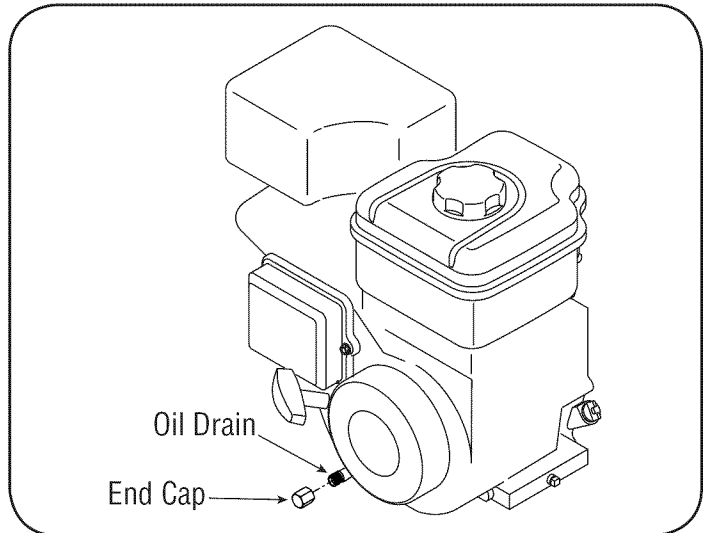

Figure 13
3. Remove oil drain cap located at the base of the engine, and drain oil into an appropriate receptacle. See Figure 13.